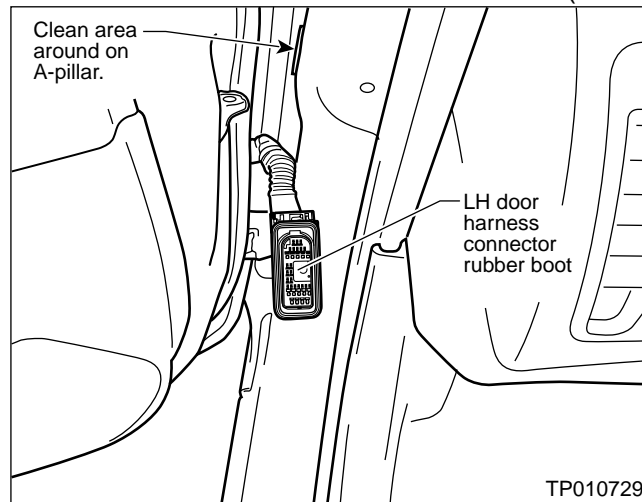

Figure 2
- C. Clean the area of the A-Pillar where the LH door harness connector rubber boot (D1) makes contact. Ensure the area is free of dust or oil film (see Figure 2).